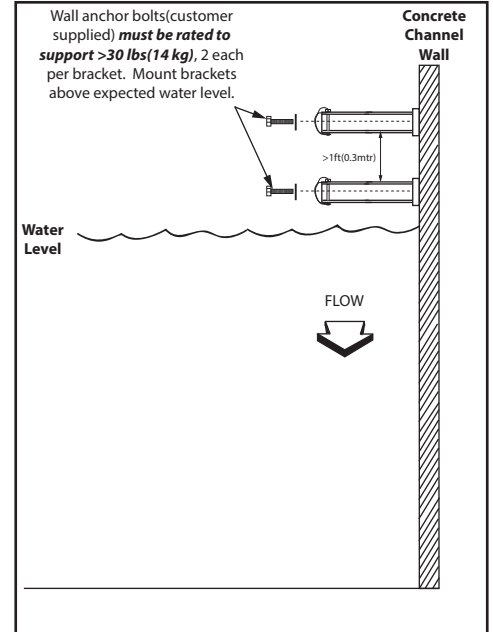

FIG. 14
- G) Attach wall mounting brackets to concrete wall in channel using customer supplied concrete anchor bolts. Note that assembly weighs 33lbs(15kg). Holes in wall mounting bracket are 0.65" (16mm) OD. See FIG 14